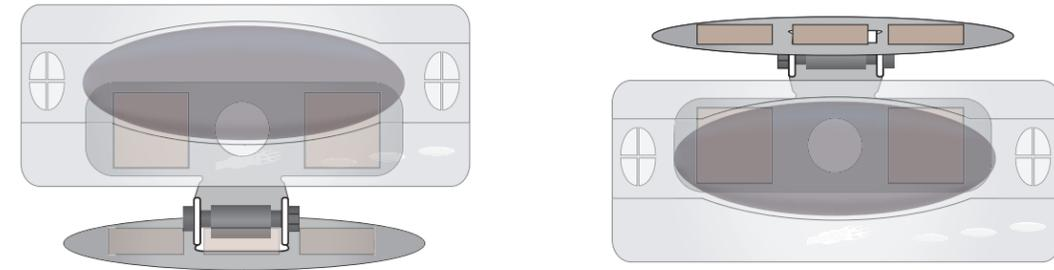

Figure 10
**NOTE:** The display panel can be mounted by either placing the bracket on top of something or by attaching the bracket to hang below something (Figure 10).
2. Cut the velcro into 1" squares and attach two "hook" pieces of the velcro to the mounting bracket and attach the two corresponding "loop" pieces of the velcro to the back of the display panel (Figure 10).
4. Attach the mounting bracket to its mounting location in the same manner. Place three "hook" pieces of the velcro onto the bracket and place three "loop" pieces of the velcro onto the chosen mounting location (Figure 10).